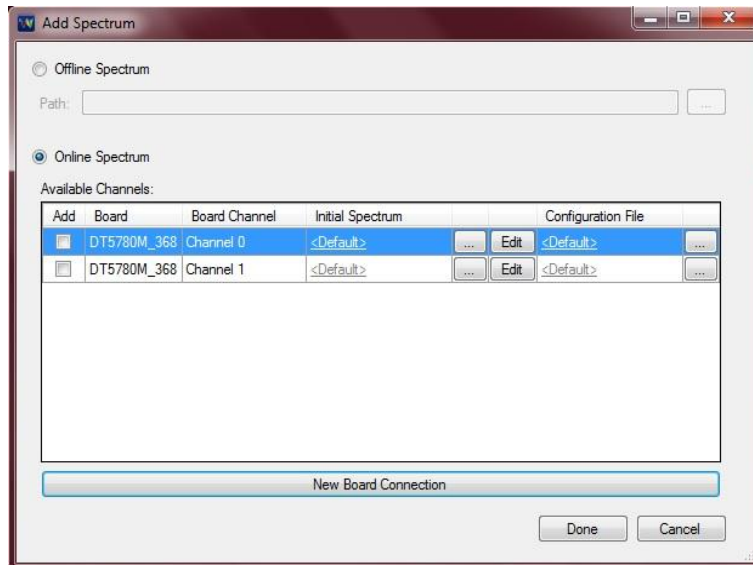

Fig. 4.6: MC²Analyzer Menu Bar - “File/Add Spectrum/New Board Connection/Connect/Close” Dialog Box
The following dialog box will then appear (see **Fig. 4.6**), allowing the user to select and mark the digitizer channels to be enabled for the acquisition and display of new live spectra:
- **Rebin Dialog:** Clicking on the “Rebin Dialog” allows the user to transform a High-Resolution Spectrum (i.e. a 16K channels spectrum) into a lower resolution spectrum (i.e. a 2 K channel spectrum) by clustering the values of the counts in the adjacent bins according to the rebin factor (i.e. the counts values of 8 adjacent bins of a 16K spectrum are summed into the corresponding single bin in a 2 K channels spectrum). Accepted vales are: 16K, 8K, 4K, 2K, 1K. The same menu is available from the **“Edit”** function of **Fig. 4.6**, at the pull-down menu **“ADC channels”**.